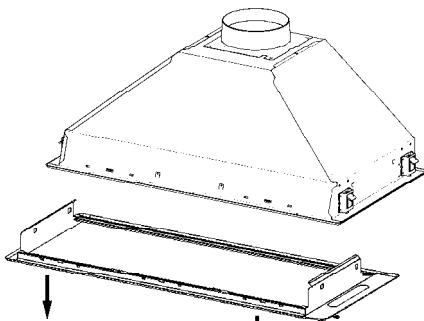

FIGURE 6
3. The entire bottom of the rangehood must be removed for installation as indicated in **FIGURE 6**. Remove the grease filters **USING TWO HANDS** (one to hold the filter so that it doesn't fall on cooktop and one to turn the knob (**A** in **FIGURE 7**) by pulling the knob out and turning to the left.